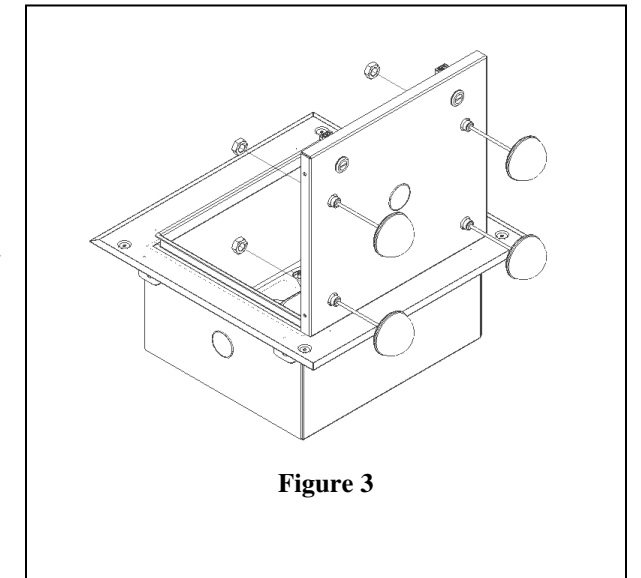

Figure 3
**Step 3 – (Optional)** With the desired number of holes opened, attach antennas (such as Oberon's BMANT or DMDUAL) and DAS antennas by inserting the cables through the door holes. Fasten the antennas to the door per the antenna manufacturer's instructions. To retain the water and dust resistance of the enclosure, antennas should have a gasket to fill the opening. After installation, connect the RF coax cable from the antenna to the access point (Figure 3). If using Bulkhead connectors, use Oberon Bulkhead connectors with provided o-ring (P/N 35-NFBLKHD) to maintain water tightness.